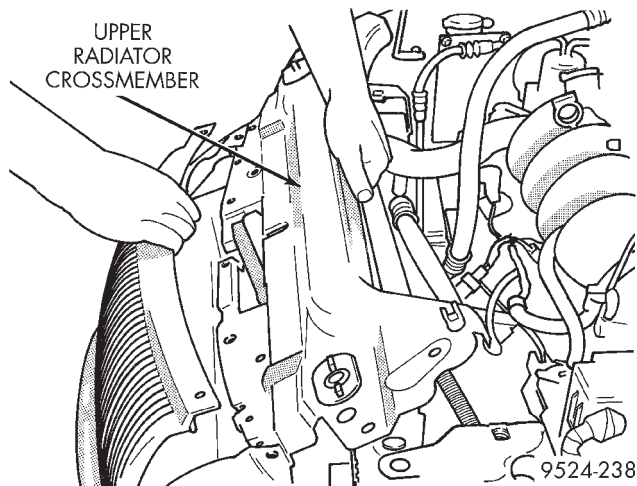
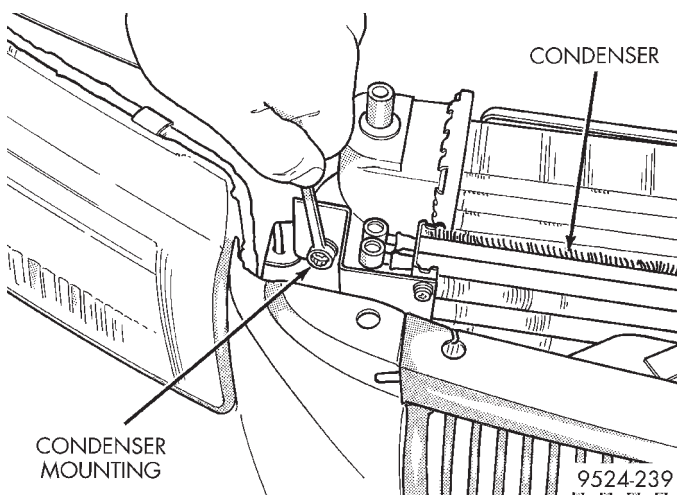

Fig. 25 Radiator Support Crossmember
Fig. 26 Condenser Mounting
- (4) Remove upper radiator support crossmember (Fig. 25).
- (5) Remove condenser lines. Use Special Tool kit 7193 for quick disconnect couplers.
- (6) Remove radiator fan module mounts.
- (7) Remove condenser line support bracket.
- (8) Remove condenser mounting bolts (Fig. 26).